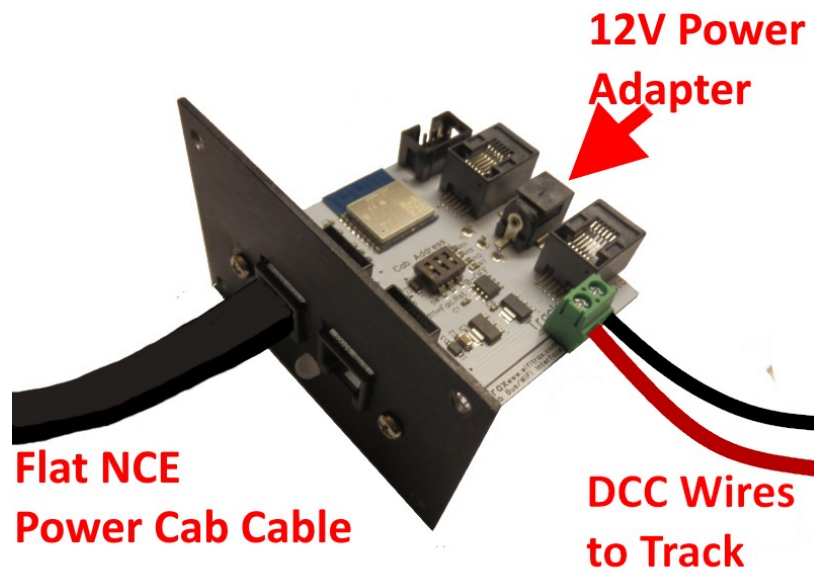
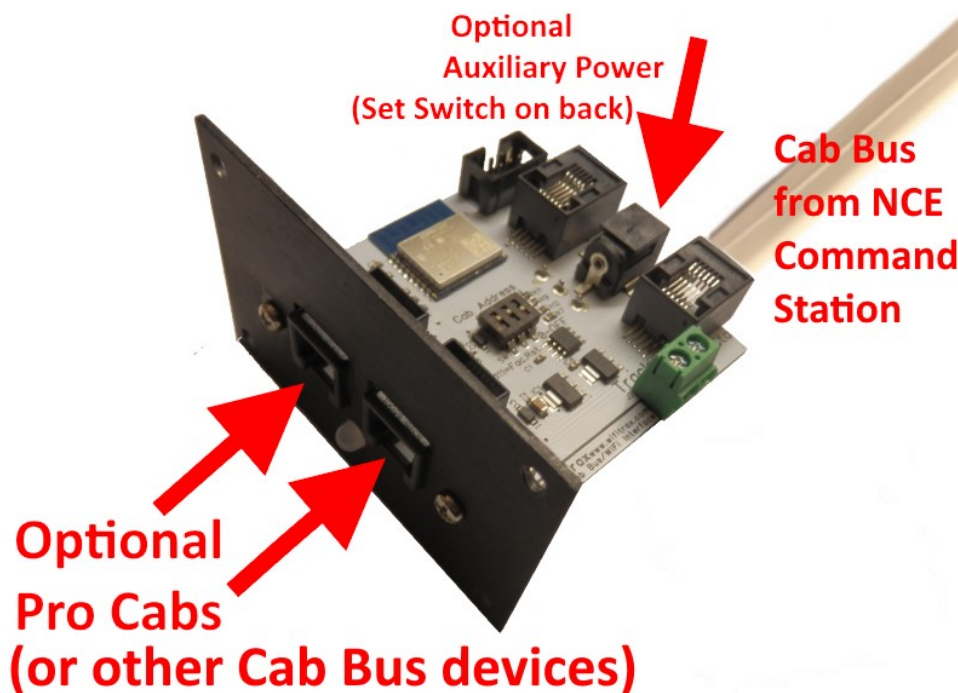

Figure 5 Basic Connections for the WFD-31 used in PCP Mode
Figure 6 Basic Connections used in UTP Mode
**OR** connect your WFD-31 as described in the section “WFD-31 Module Description and Connections” as in Figure 5 or Figure 6.